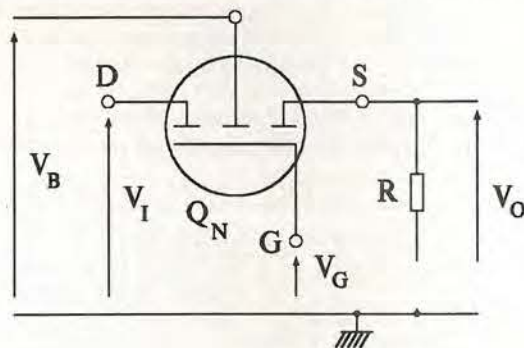

Fig. 3. Transmission gate using an n-channel enhancement-mode mosfet.
Figure 3 shows a single n-channel enhancement-mode mosfet used in the circuit of Fig. 1a). The electrode potentials are shown as dc quantities for
a) DC mosfet model for Q_N in Fig. 3.
If, in Fig. 3, V_G is connected to a negative bias source $-V_{GG}$, and if V_I is greater than $-(V_{GG} + V_{TN})$ then D_F and D_R in the model of Fig. 4a) are cut off and $I_F = I_R = I_D = 0$.
The transmission gate in Fig. 3 is cut off, its idealised equivalent circuit
Consider next what happens in Fig. 3 when V_G is $+V_{GG}$. Using the model of Fig. 4a) it is clear that D_F conducts while V_{GG} is greater than V_{TN} . But there are two cases to consider for D_R . One is that D_R is off when V_I is greater than $V_{GG} - V_{TN}$ and the other is that it is on while V_I is less than $V_{GG} - V_{TN}$.